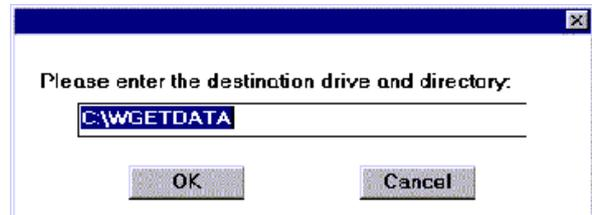

Figure 2 File Location Dialog Box
4. After the program starts installing, another dialog box will appear as shown in Figure 2. This dialog box will show the default location for the Getdata program files to be stored on your computer.
5. If you accept the default location, as shown on the Figure 2 dialog box, then click on the **OK** button. If you want the files to be located on a different drive or in a different directory or sub-directory, then click in the text box portion of the dialog box and type in your preference. The program files will then be stored in your preferred location.